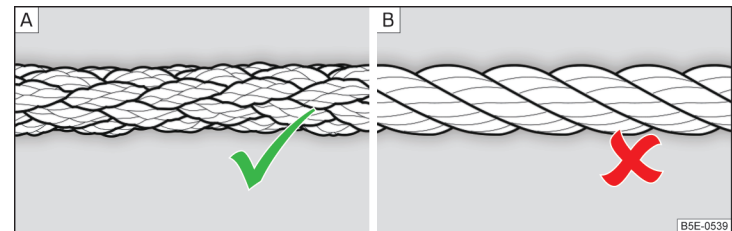

Fig. 339 Braided tow rope / Spiral tow rope
For towing using a tow rope, use only a braided synthetic fibre rope » Fig. 339 - **A** » **!**
- Wound tow ropes must not be used for towing » Fig. 339- [B], the towing eye may unscrew out of the vehicle - risk of accident.